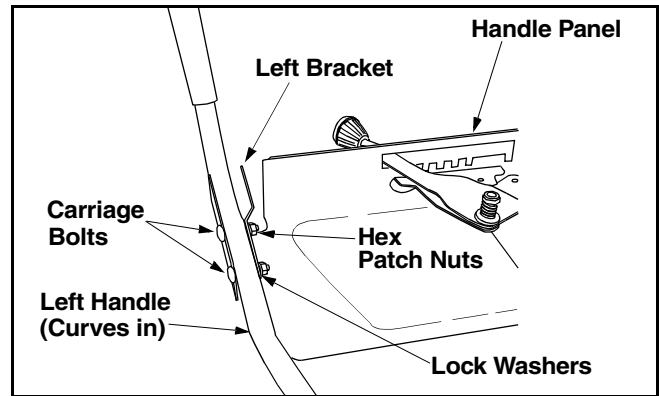

Figure 2
- Attach left handle and left clutch bracket to handle panel with two carriage bolts, lock washers and hex patch nuts. (Be sure the bend in the grip bracket is towards the center of the handle panel.) Do not tighten at this time. See Figure 2.